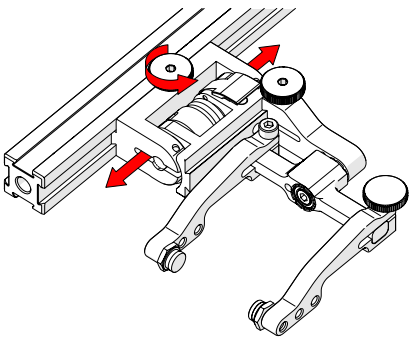

Fig. 77 - Adjust on frame bar
2. Use the probe holder adjustment knob to position the probe holder along the frame bar (Fig. 77).